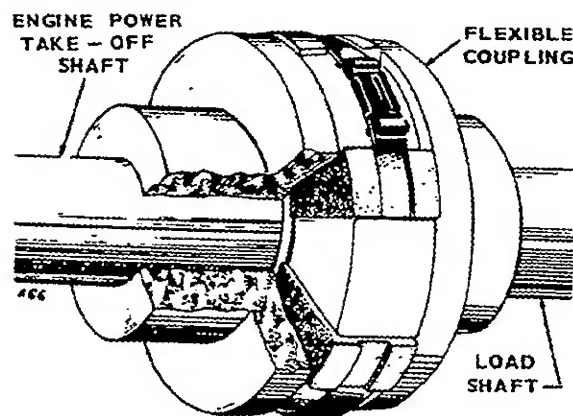

FIGURE 5. FLEXIBLE COUPLING
1. Engine priming before starting is shown in Figure 5 (manual start only).
Flexible Coupling: If a flexible coupling engine-to-load drive is used, the load shaft must be in line and centered with the engine shaft (Figure 5).